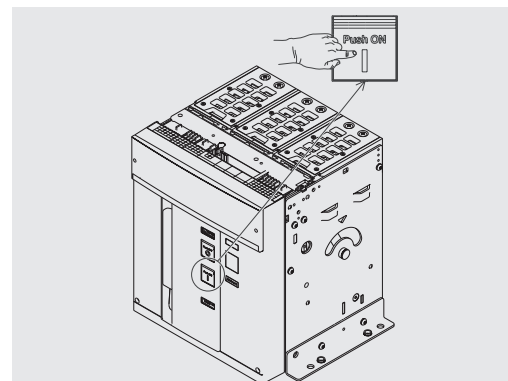

Figure 28
4. Closing - Press the closing push-button "I - Push ON" as indicated in Figure 28.